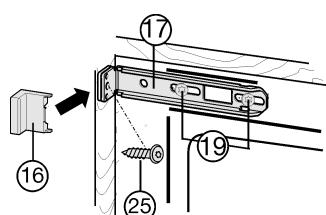

Fig. 17
- ▶ Loosen the screws Fig. 17 (19) a little.
- ▶ Tightly screw the top mounting bracket Fig. 17 (17) to the unit wall using Spax screw Fig. 17 (25) ø4x19.
- ▶ Break off the projecting end of the cover Fig. 17 (16).
- ▶ Tighten the screws Fig. 17 (19).
- ▶ Put on the cover Fig. 17 (16).